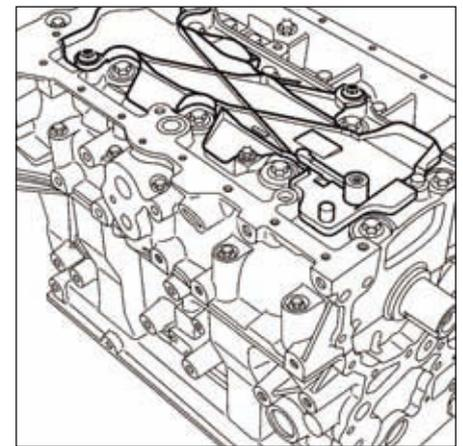

FIG.59
- Déposer la plaque anti-émulsion (Fig.59).